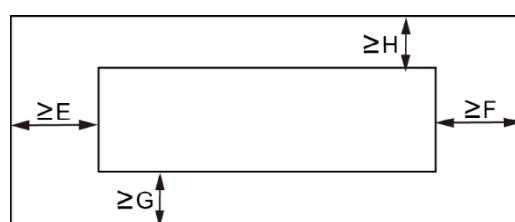

Fig. 3.2.3
- ⑧ Space for connecting the ducts must be left clear around the unit, as shown in Figure 3.2.3.
- ⑥ The unit must be installed away from heat sources, flammable gases, and smoke.
- ⑩ The indoor unit, outdoor unit, power cord, and electrical wiring must be located at least 1 meter away from the TV and radio. Otherwise, these electrical devices may experience interference and noise. (Even if the distance is 1 meter, noise may occur if there are strong electromagnetic waves.)